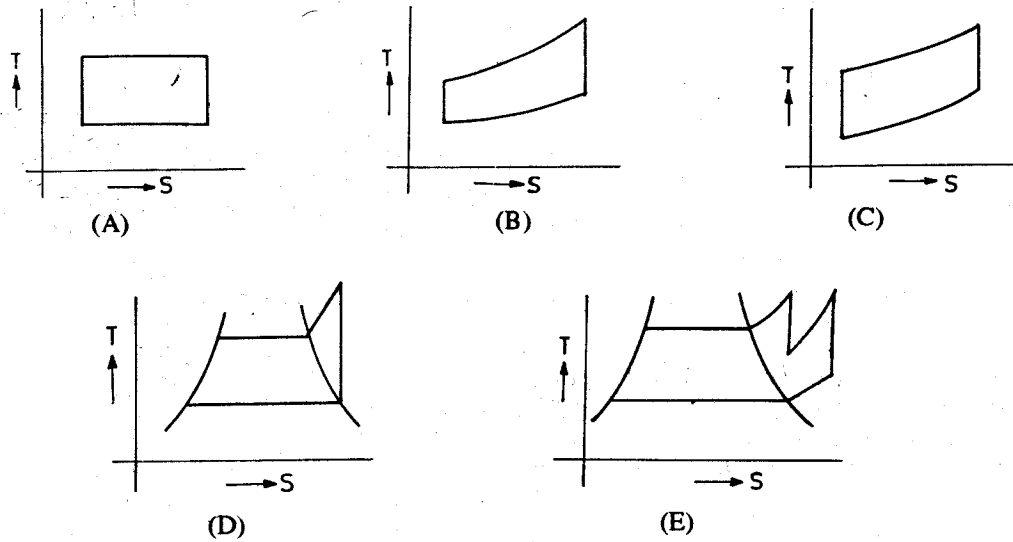

Fig. 1
3. Fig. 1 given below represents various commonly used cycles in thermodynamics on temperature (T) versus entropy (S) diagrams.